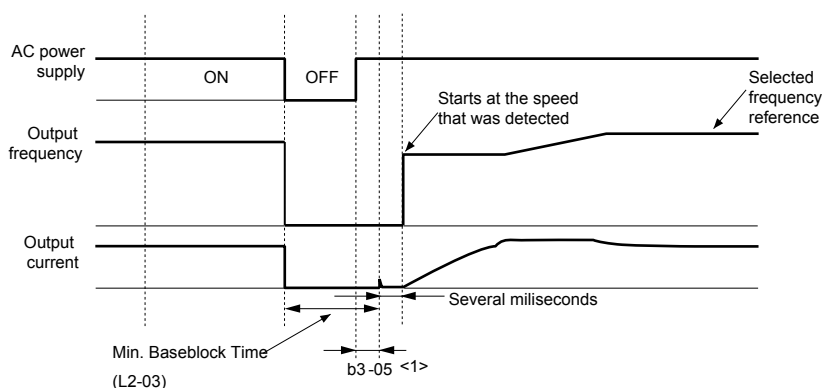

Figure 5.12 Speed Search after Baseblock
**Note:** If the Run command is quickly switched off and then back on again when the drive is set to “Coast to stop” as the stopping method, Speed Search will operate as shown in Figure 5.12.